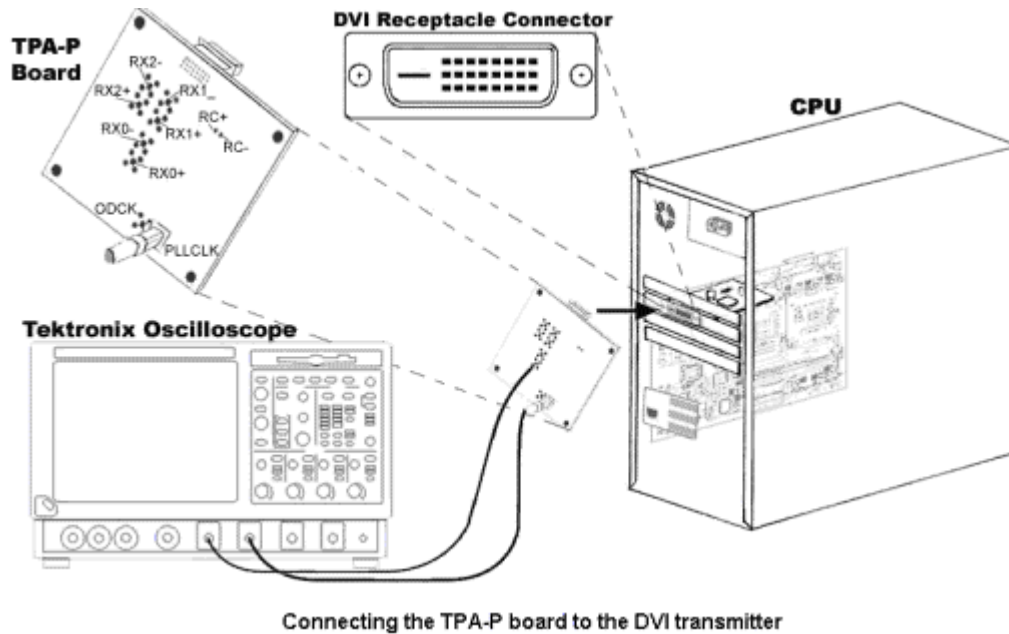

Figure 206: TPA-P fixture to the transmitter setup
4. Connect two single-ended probes to the Rx0+ of one data pair and Rx1- of the same data pair as shown in Figure 206.